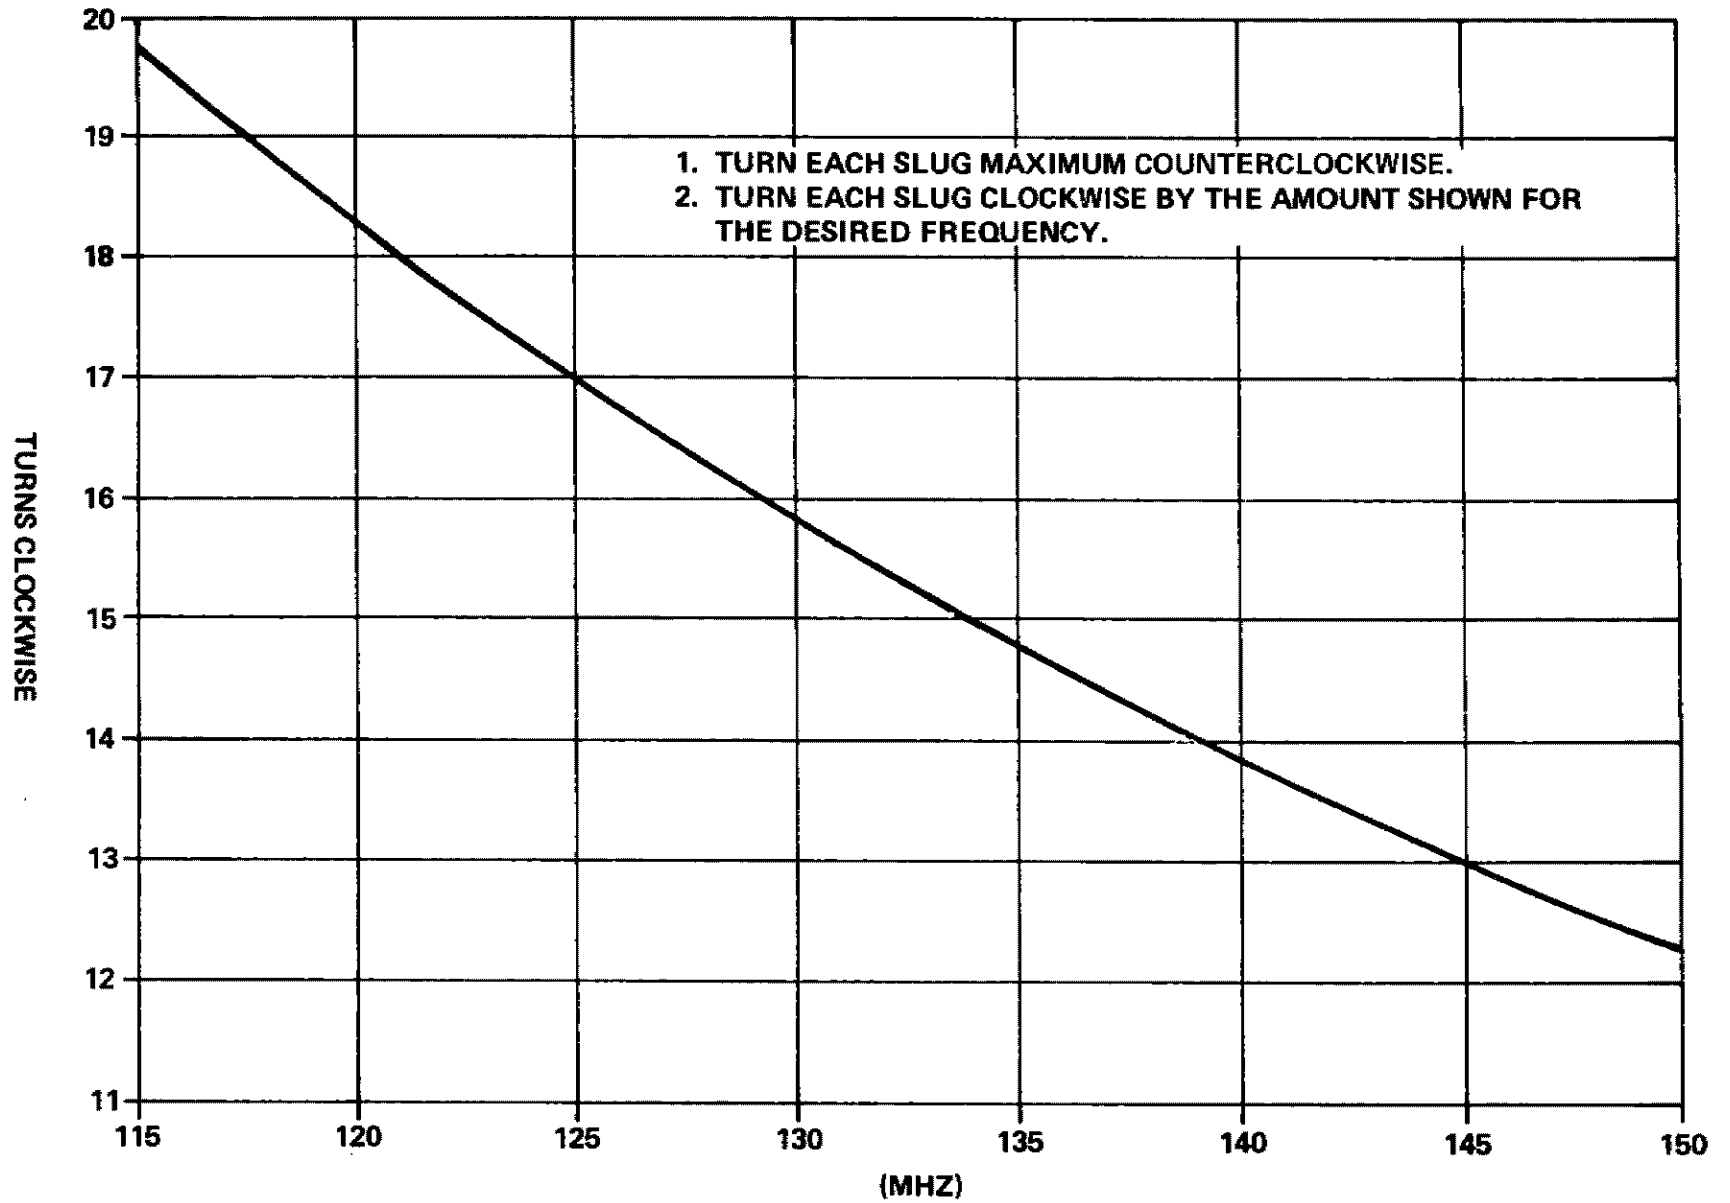

Figure 9-8. VHF Tunable Filter Turns vs. Frequency
(2) Refer to figure 9-8 for setting tunable filter IN and OUT controls; adjust each as indicated.
(3) Set voltmeter to 1.0 V d.c. scale and connect between GROUND and LO test point.